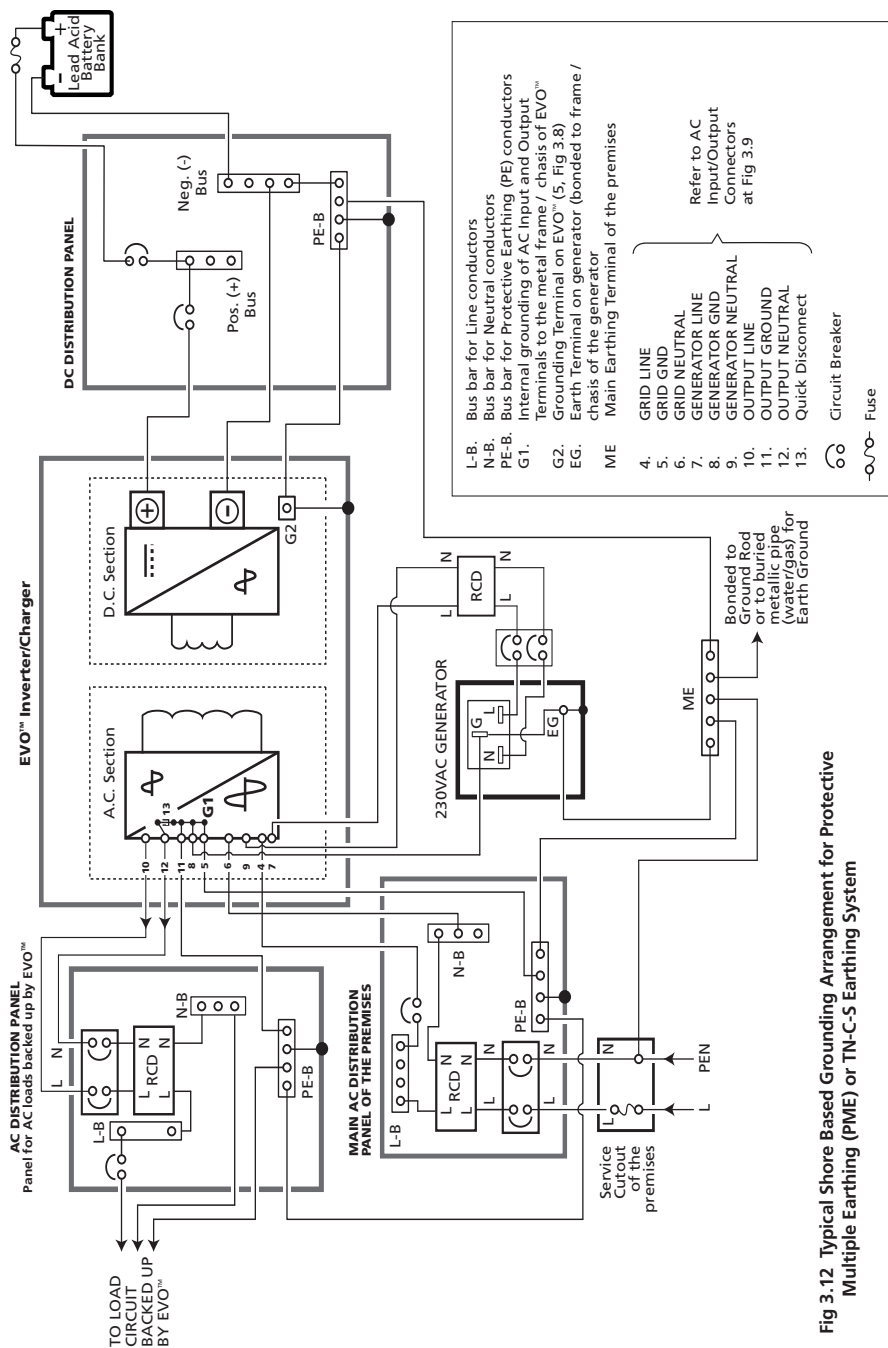
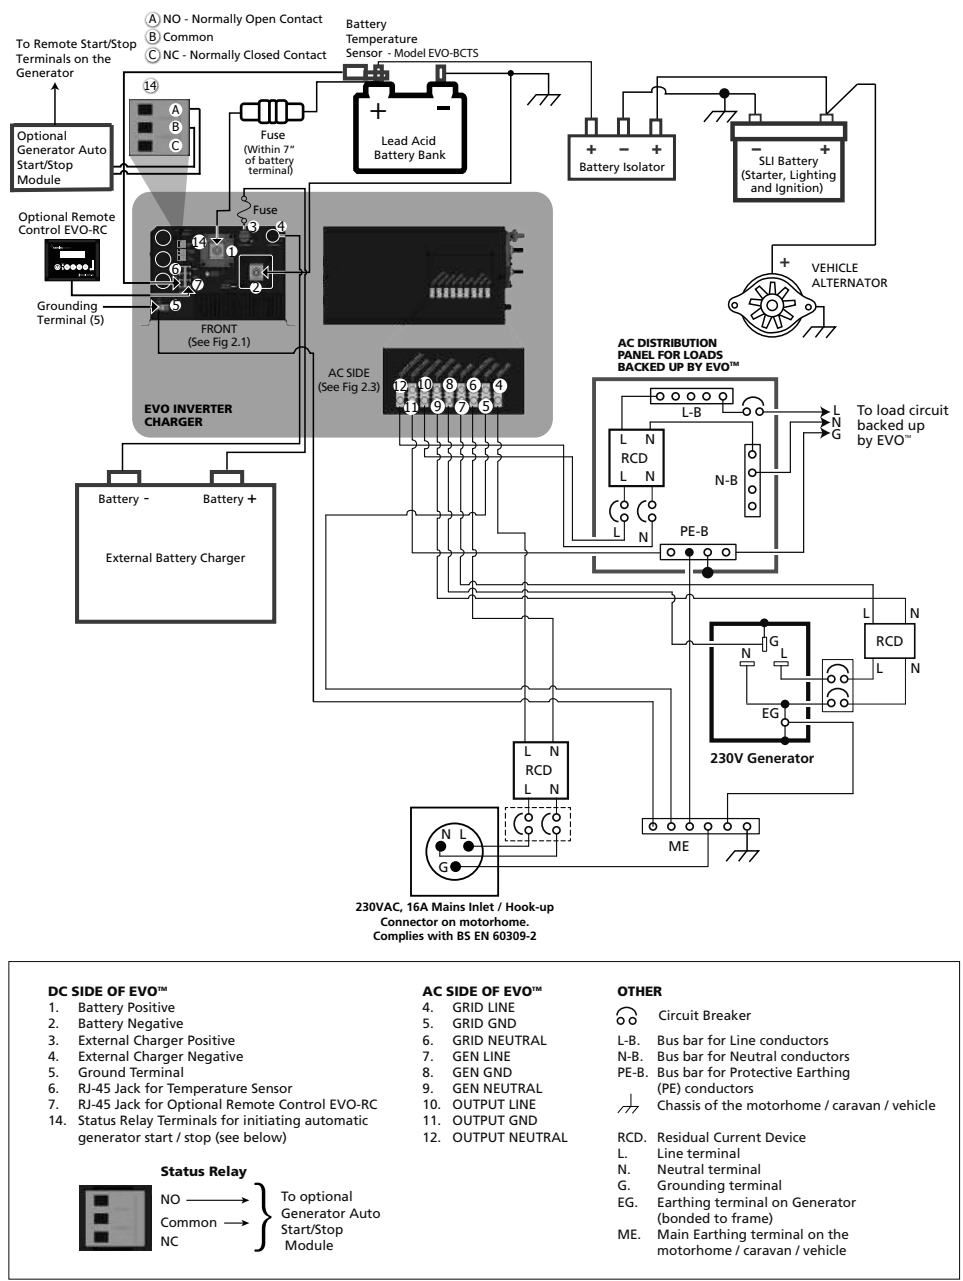

Fig 3.12 Typical Shore Based Grounding Arrangement for Protective Multiple Earthing (PME) or TN-C-S Earthing System
Fig 3.14 Typical Mobile Installation for Motorhome / Caravan / Vehicle
When this unit is installed in 230VAC motorhome / caravan, ensure that appropriate capacity of Residual Current Device (RCD) is used in the vehicle wiring system to protect all load circuits. (Refere to Fig 3.14)
Schematic at Fig 3.12 illustrates typical grounding arrangement of EVO™ Series for shore based installations with TN-C-S / Protective Multiple Earthing (PME) Power Distribution System. Schematic at Fig. 3.14 shows grounding arrangement in typical mobile installation. Internally, EVO™ consists of AC and DC Sections isolated by a transformer (Fig 3.12). Both these sections are required to be grounded appropriately.
For Typical Shore Based Installations using TN-C-S / PME Distribution System (Please see Fig. 3.12)
For Typical Mobile Installation (Please refer to Fig. 3.14)
- (i) The Grounding Terminal "G" of the 230VAC, 16A Mains Inlet / Hook-up Connector (ii) bus bar "PE-B" for Protective Earth (PE) conductors of the Distribution Panel for loads backed up by EVO™ and (iii) the metallic frame / Earthing Terminal "EG" of the generator are all electrically bonded to the Main Earthing Terminal "ME" of the motorhome / caravan which, in turn, is bonded to the "chassis
- The terminals for AC Input Ground of EVO™ {Grid GND (5) and GEN GND (8)} and the terminal for AC Output Ground {OUTUT GND (11)} of EVO™ are all internally bonded to the metal frame / chassis of the EVO™ (This internal bonding is shown as "G1" in Fig 3.12)
As described at Section 3.13, the metal frame / chassis of the EVO™ (Fig 3.12, G1) is bonded to the Main Earthing Terminal "ME" for AC side grounding. It may be argued that if the metal frame / chassis of EVO™ is already bonded to Main Earthing Terminal "ME" for AC side grounding, why is it necessary to provide an additional DC side grounding wiring? (Wiring that bonds DC Grounding Terminals "GE", "PE-B" and "ME" in Fig 3.1). If separate thicker grounding wire of the same size as the battery cable was not provided for the DC side grounding and there was a ground fault in the battery circuit, very large DC fault current from Battery+ would flow through the smaller size AC grounding wires to the Battery Negative through the Main Earthing Terminal "ME". These smaller size AC side grounding wires would be damaged due to very high DC side fault current (150A to 400A depending on the Model of the EVO™ being used).
DC Side Grounding Arrangement for Typical Shore Based Installations using Protective Multiple Earthing (PME) or "TN-C-S" Earthing System (Please refer to Fig. 3.12)
DC Side Grounding Arrangement for Typical Mobile Installation (Please refer to Fig. 3.14)
1. When this unit is installed in a motorhome / caravan please ensure that appropriate Residual Current Devices (RCD) are installed as recommended in the typical installation diagram at Fig 3.14.
2. Installation shown in Fig 3.14 is based on Section 721 of British Standard BS 7671 : 2008.
SLI batteries use lots of thin plates to maximize the surface area of the plates for providing very large bursts of current (also specified as Cranking Amps). This allows very high starting current but causes the plates to warp when the battery is cycled. Vehicle starting typically discharges 1%–3% of a healthy SLI battery's capacity. The automotive SLI battery is not designed for repeated deep discharge where up to 80% of the battery capacity is discharged and then recharged. If an SLI battery is used for this type of deep discharge application, its useful service life will be drastically reduced. Hence, this type of battery is not recommended for the storage of energy for inverter applications. A second deep cycle auxiliary battery must be installed in the motorhome / caravan / vehicle for powering the EVO™ (A deep cycle, auxiliary battery is shown in Fig. 3.14).
When the second auxiliary deep cycle battery is used, a Battery Isolator is required that will allow parallel connection of the two batteries for charging when the alternator is ON and disconnecting the parallel connection when the alternator is stopped (Isolator is shown in Fig. 3.14). The capacity of the Battery Isolator should be as follows:
Fig. 3.14 illustrates a typical installation on motorhome / caravan / vehicle using 230VAC, 16A Service Inlet for 16A motorhome / caravan / vehicle Power Supply Cord. The installation is based on Section 721 of British Standard BS 7671 : 2008. Please check that your installation complies with the national and local Electrical Codes.
- Automatic Generator start/stop is possible as follows (Please see Fig 3.14):
- When using generator, please ensure the following (please see Fig 3.14):
The “Common” and “NO” terminals are wired to the optional Generator Auto Start / Stop Control Module which, in turn, is wired to the Remote Start / Stop connections on the Generator. The AC output terminals of the Generator are wired to the Generator Input Terminals on the EVO™ (7, 8, 9 in Fig 2.3) For installation details, please refer to Section 3.15 / Fig 3.13 and Section 3.16 / Fig 3.14 in the EVO™ Manual.